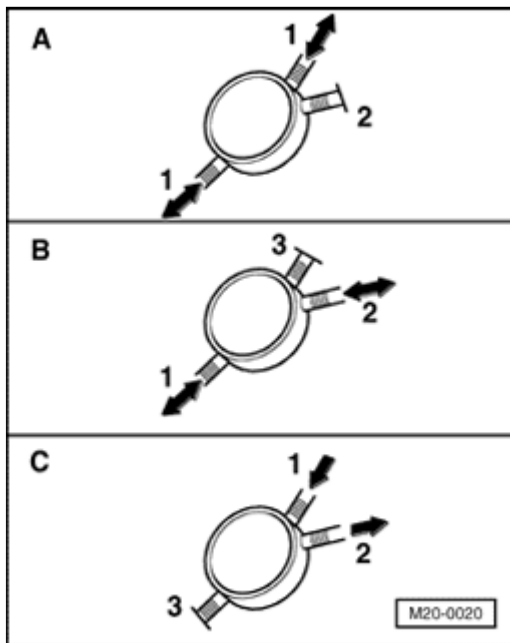

Fig. 205: Checking Pressure Retention Valve
- Checking. Refer to **Fig. 205**
- Note installation position. Refer to **Fig. 205**